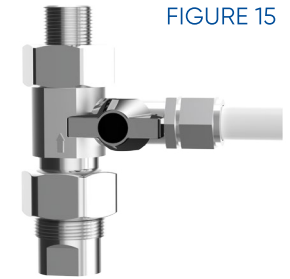

FIGURE 15
3. Turn the handle on the "Feed Water Adapter" so that it is parallel with the "White PE Tubing" (Figure 15).